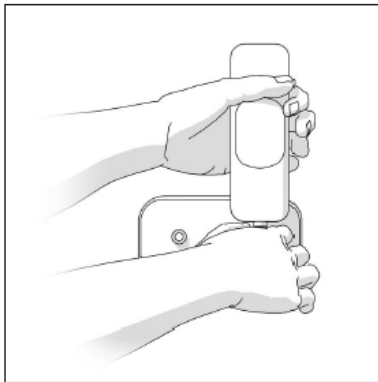

Figure 1.
Adjust the antenna to preferable direction, then mount the SMA(M) connector on devices SMA(F) connector. (See figure 1)